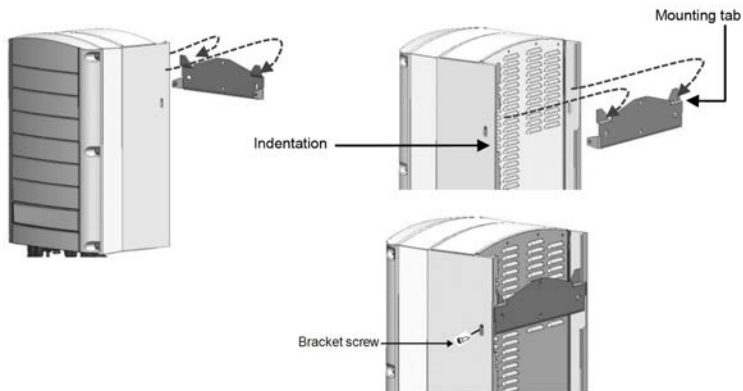

Figure 11: Hanging the inverter on the bracket
- Ensure that the flat edge of the bracket is at the bottom, as in *Figure 11*.
9. Insert the two supplied screws through the outer heat sink fin on both sides of the inverter and into the bracket (see *Figure 11*). Tighten the screws with a torque of 4.0 N\*m / 2.9 lb.\*ft.